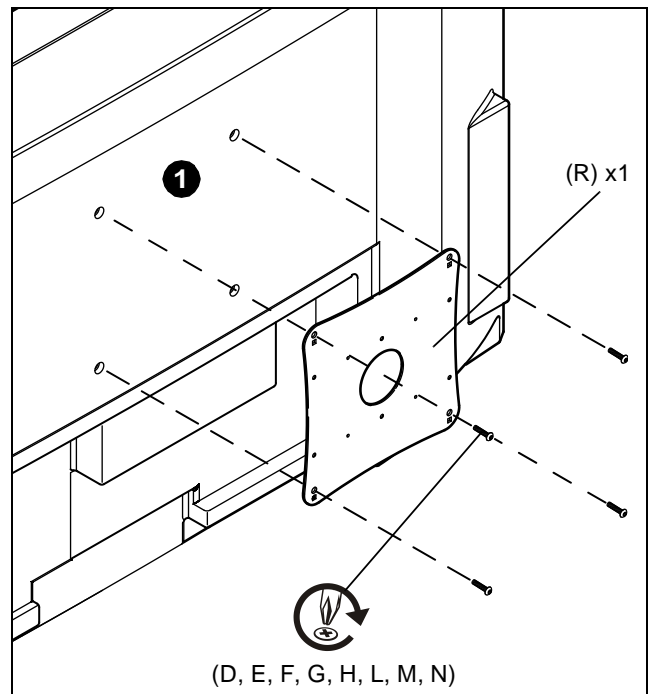

Figure 3
2. Attach VESA Plate (R) to display using appropriate screws (D, E, F, G, H, L, M, N). (See Figure 3)
2. Attach Interface Bracket (S) to display using appropriate screws (D, E, F, G, H, L, M, N). (See Figure 3)